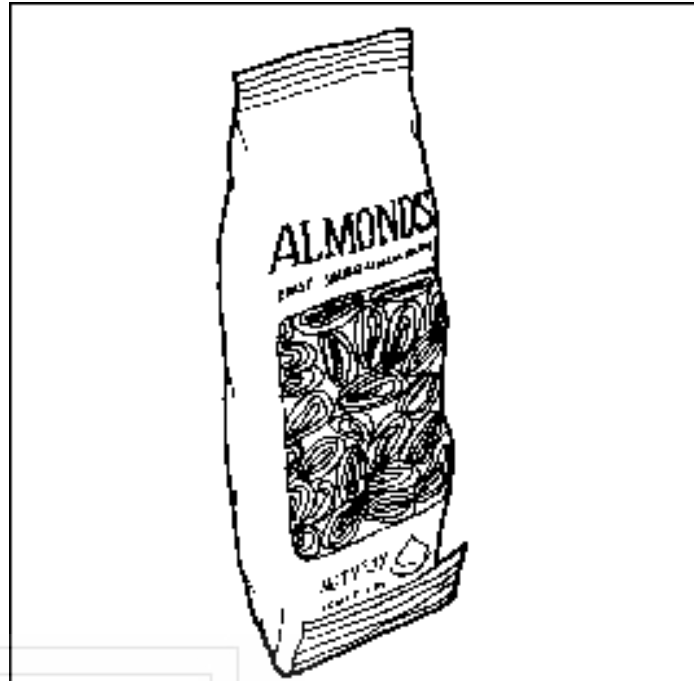

Figure 8. Folded bagged items bottom edge forward and up.
9. **Bagged or Boxed Items** in the 8-selection shelves, if not loaded properly, could be a problem. The sealed edge of the bag may get under the spiral wire causing the product to hang up after it has been vended. It is recommended that the lower edge of these types of product be folded forward and up (*Figure 8.*) next to the product before inserting into the spiral space. It is also recommended to use an 18 count spiral for bagged items because of the product settling to the bottom of the package.